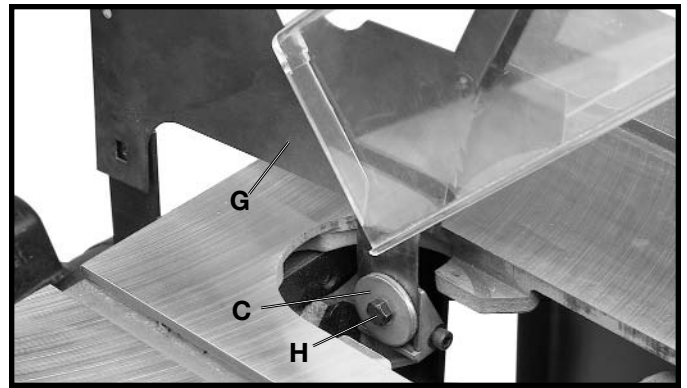

Fig. 33
7. Assemble the blade guard and splitter assembly (G) Fig. 33, between the large washer (C) and the splitter bracket and tighten screw (H) with wrench supplied.